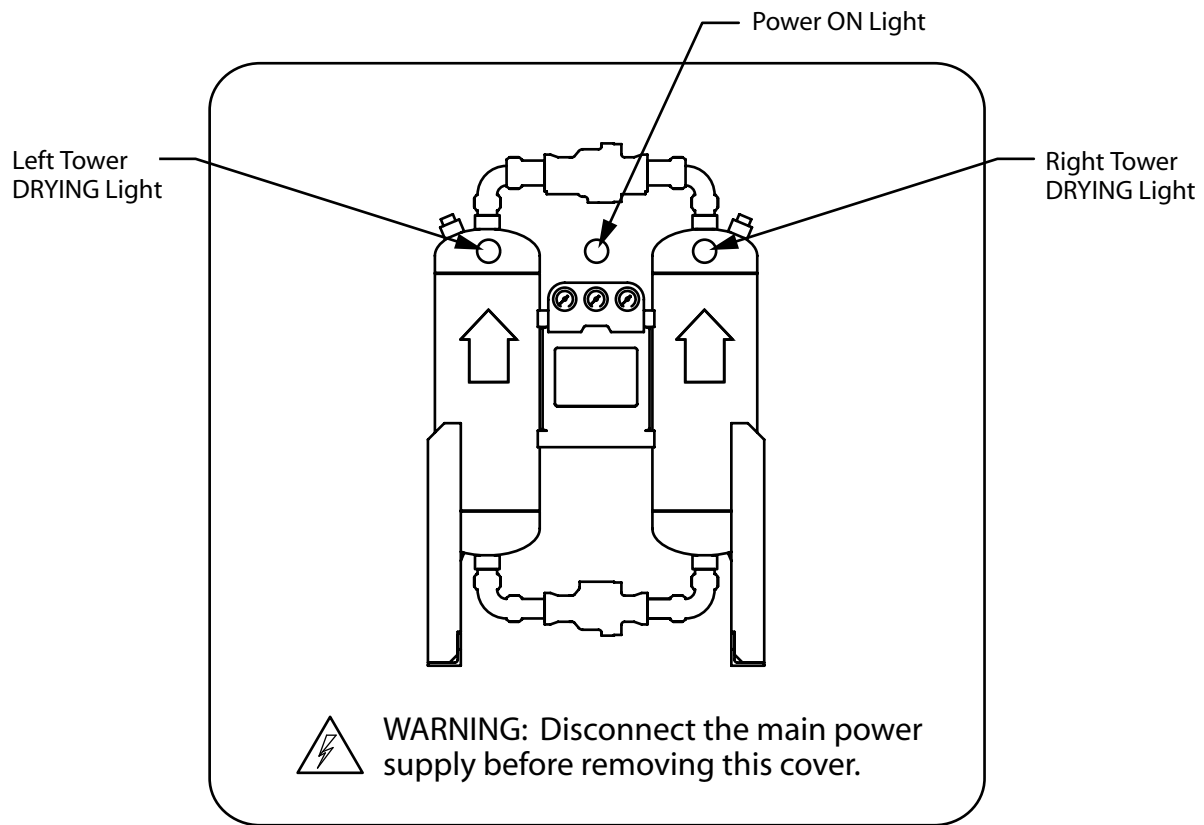

Figure 6-1
- Figure 6-1 Front Panel Overlay